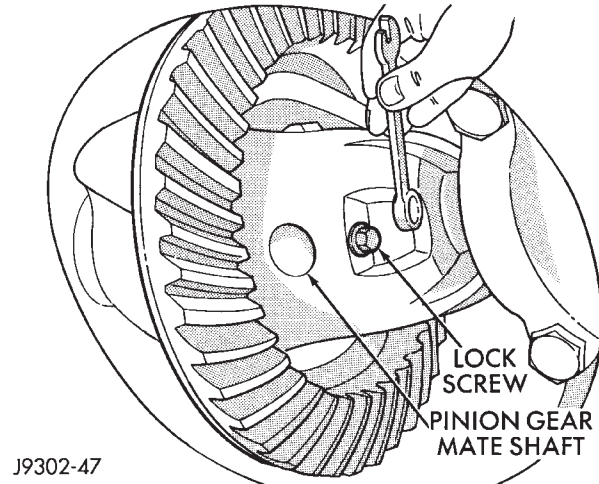
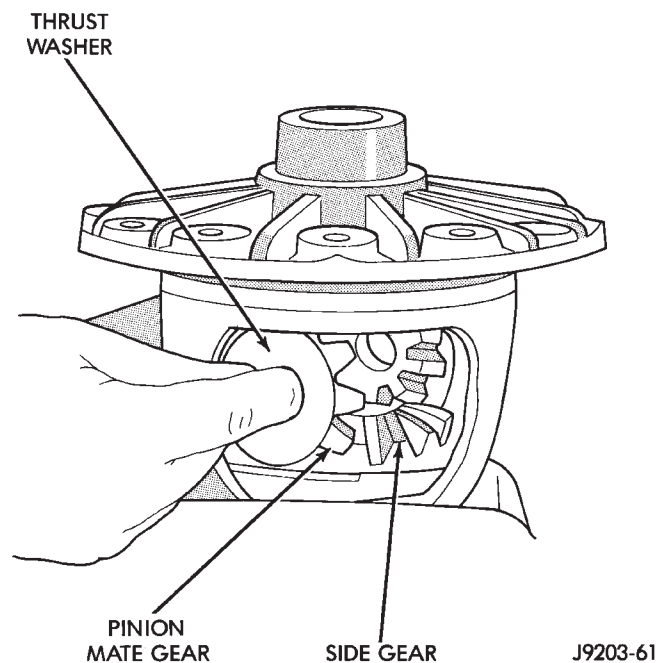

Fig. 49 Pinion Gear Mate Shaft Lock Screw
Fig. 50 Pinion Mate Gear Removal
(1) Remove pinion gear mate shaft lock screw (Fig. 49).
(2) Remove pinion gear mate shaft.
(3) Rotate the differential side gears and remove the pinion mate gears and thrust washers (Fig. 50).
(4) Remove the differential side gears and thrust washers.